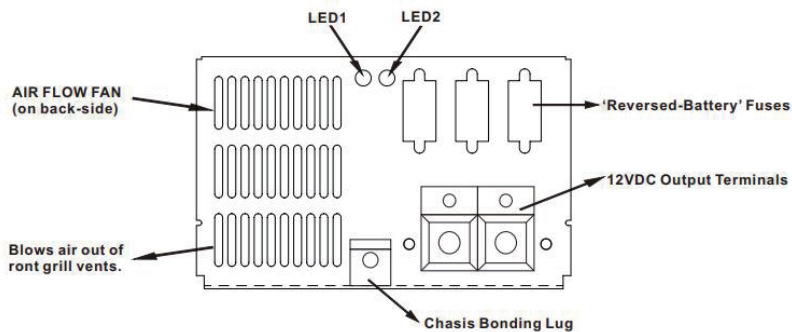

Figure 4
13. The green light on LED1 indicates that the output power is working normally or charging has ended, while the orange light indicates charging is in progress. Flashing indicates a malfunction. LED2 green light indicates working in lead-acid battery charging mode, red light indicates working in fixed output mode, orange light, etc. indicates working in lithium battery mode. (Figure 4)